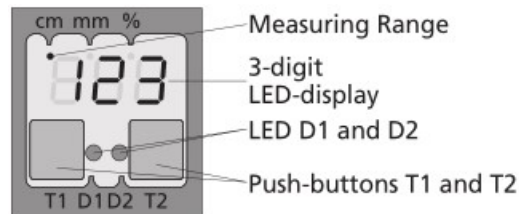

Fig. 3: TouchControl/LED display
- Connect the power supply.  $\hat{I}$  Set the parameters of the sensor manually via TouchControl (see Fig. 3 and Diagram 1)